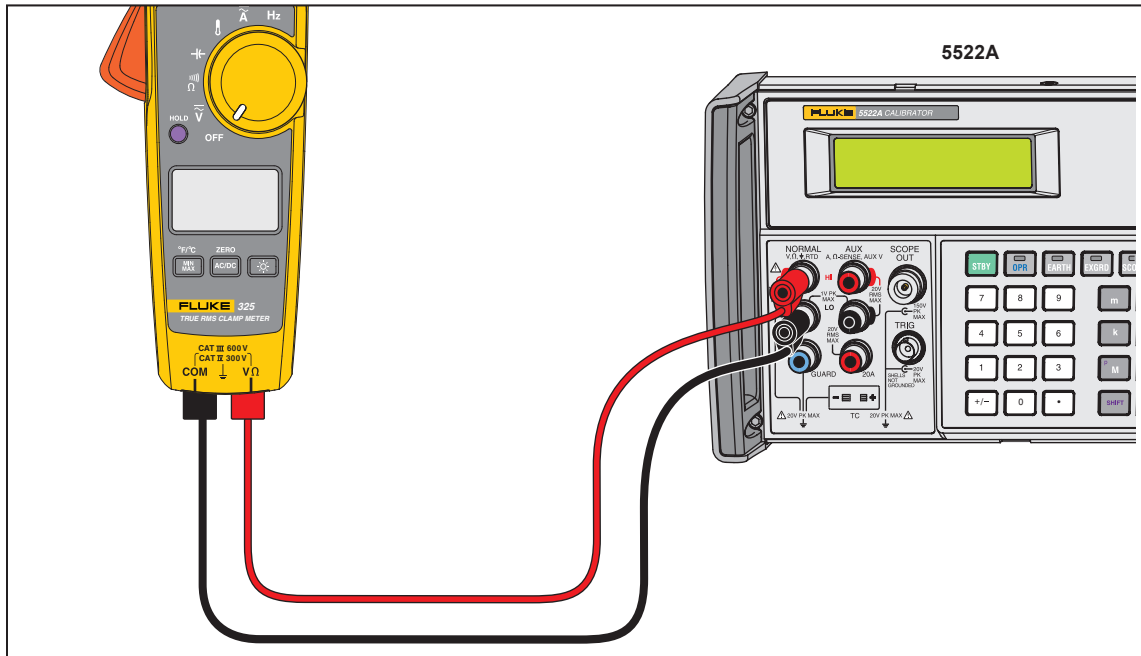

Figure 4. Temperature, Volts, Ohms, Frequency, and Capacitance Performance Test Connections
1. Connect the Calibrator NORMAL output and ground to the Product. See Figure 4 for the connections.